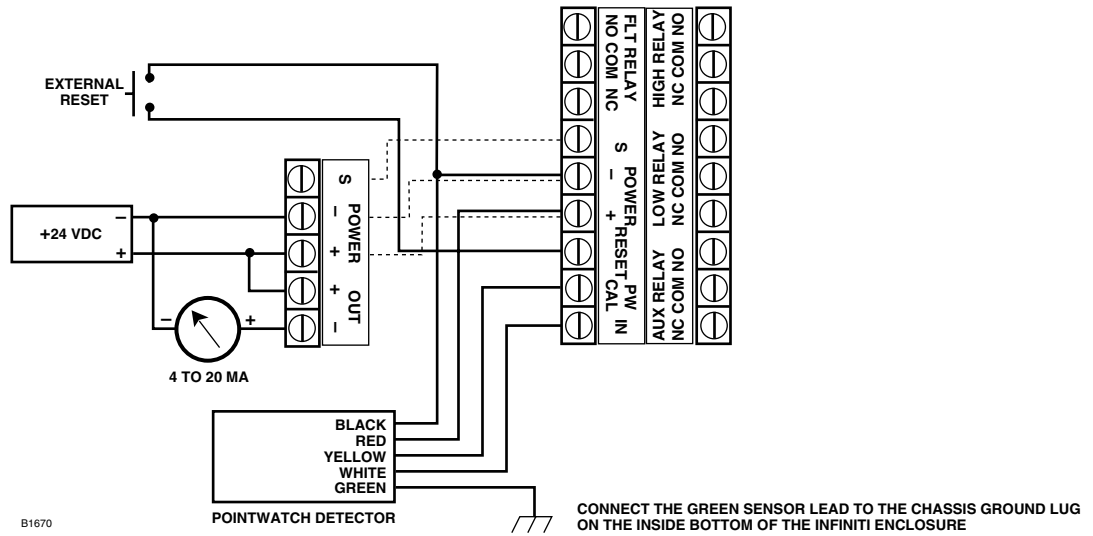

Figure 9—A Typical System - Infiniti Transmitter with a PointWatch Detector and Non-Isolated Current Output
- Figure 9 — A Typical System, Infiniti Transmitter with a PointWatch Detector and Non-Isolated Current Output
The external reset input terminal, when grounded momentarily, normally initiates a relay/display reset only. See Figure 9. However, if the "EXT" "CAL" option is programmed "YES" during the Infiniti setup procedure, the external reset duplicates the magnetic reed switch (Cal Magnet) and can be used to perform calibration.